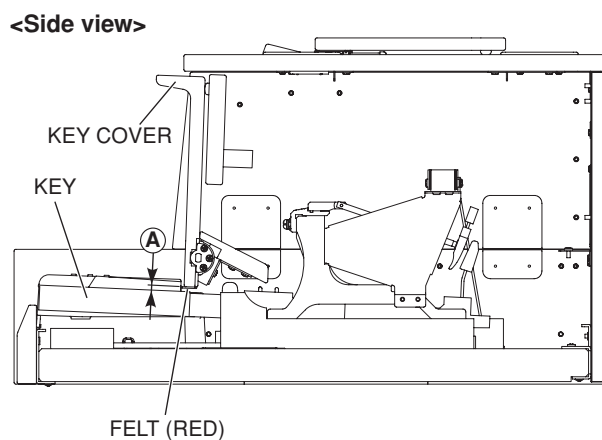

Fig. 2
- Standard 1 Make sure the red felt does not rub against keys and is not rolled up when opening the key cover. (Fig. 2)
- Standard 2 Make sure the gap between the red felt and the keys is not too wide when the key cover is opened. (Fig. 2)
- (Reference) Standard value ① (at shipment):
4.5 mm $\pm$ 1 mm, difference on the left and right within 1 mm. (Fig. 2)